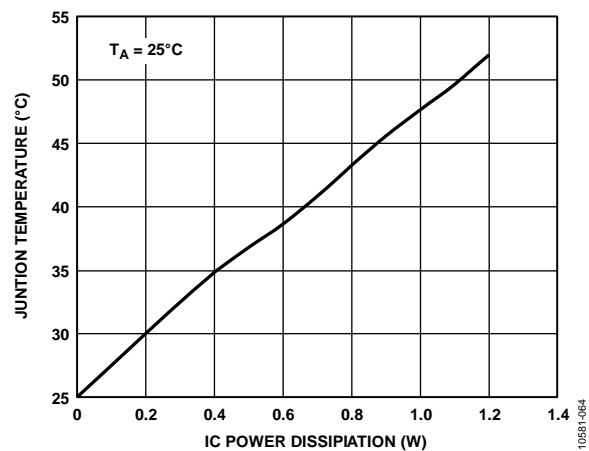

Figure 64. Junction Temperature vs. Power Dissipation Based on ADP2441-EVALZ
When designing an application for a particular ambient temperature range, calculate the expected ADP2441 power dissipation (PD) due to the conduction, switching, and transition losses using Equation 28, Equation 29, and Equation 30, and then estimate the temperature rise using Equation 31 and Equation 32. Improved thermal performance can be achieved by implementing good board layout. For example, on the ADP2441 evaluation board (ADP2441-EVALZ), the measured θ_{JA} is <30°/W. Thermal performance of the ADP2441 evaluation board is shown in the Figure 64 and Figure 65.